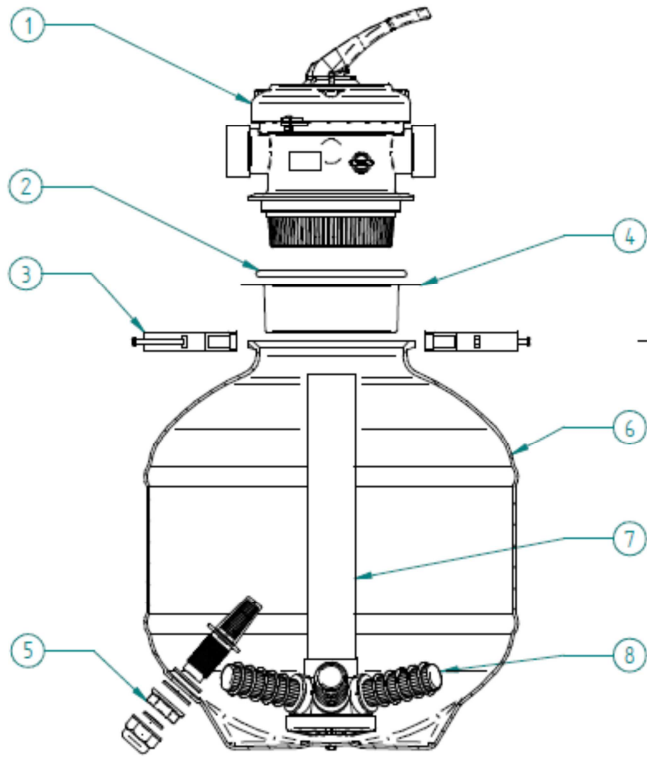

Fig. 4
16. *Multifunctional valve*: device used to regulate the water flow (Fig. 4, # 1).